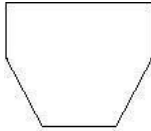

Fig. 2a
- 2 triangular shaped parts as buffer for the accumulators in the bottom cup (s. Fig. 2a):